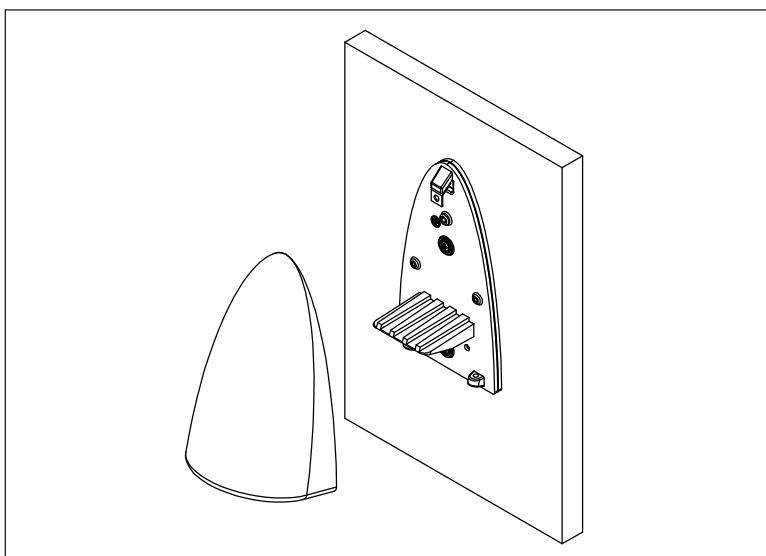

Figure 3
3. Make all necessary electrical connections, and slide Housing onto Back Plate (Fig. 3)